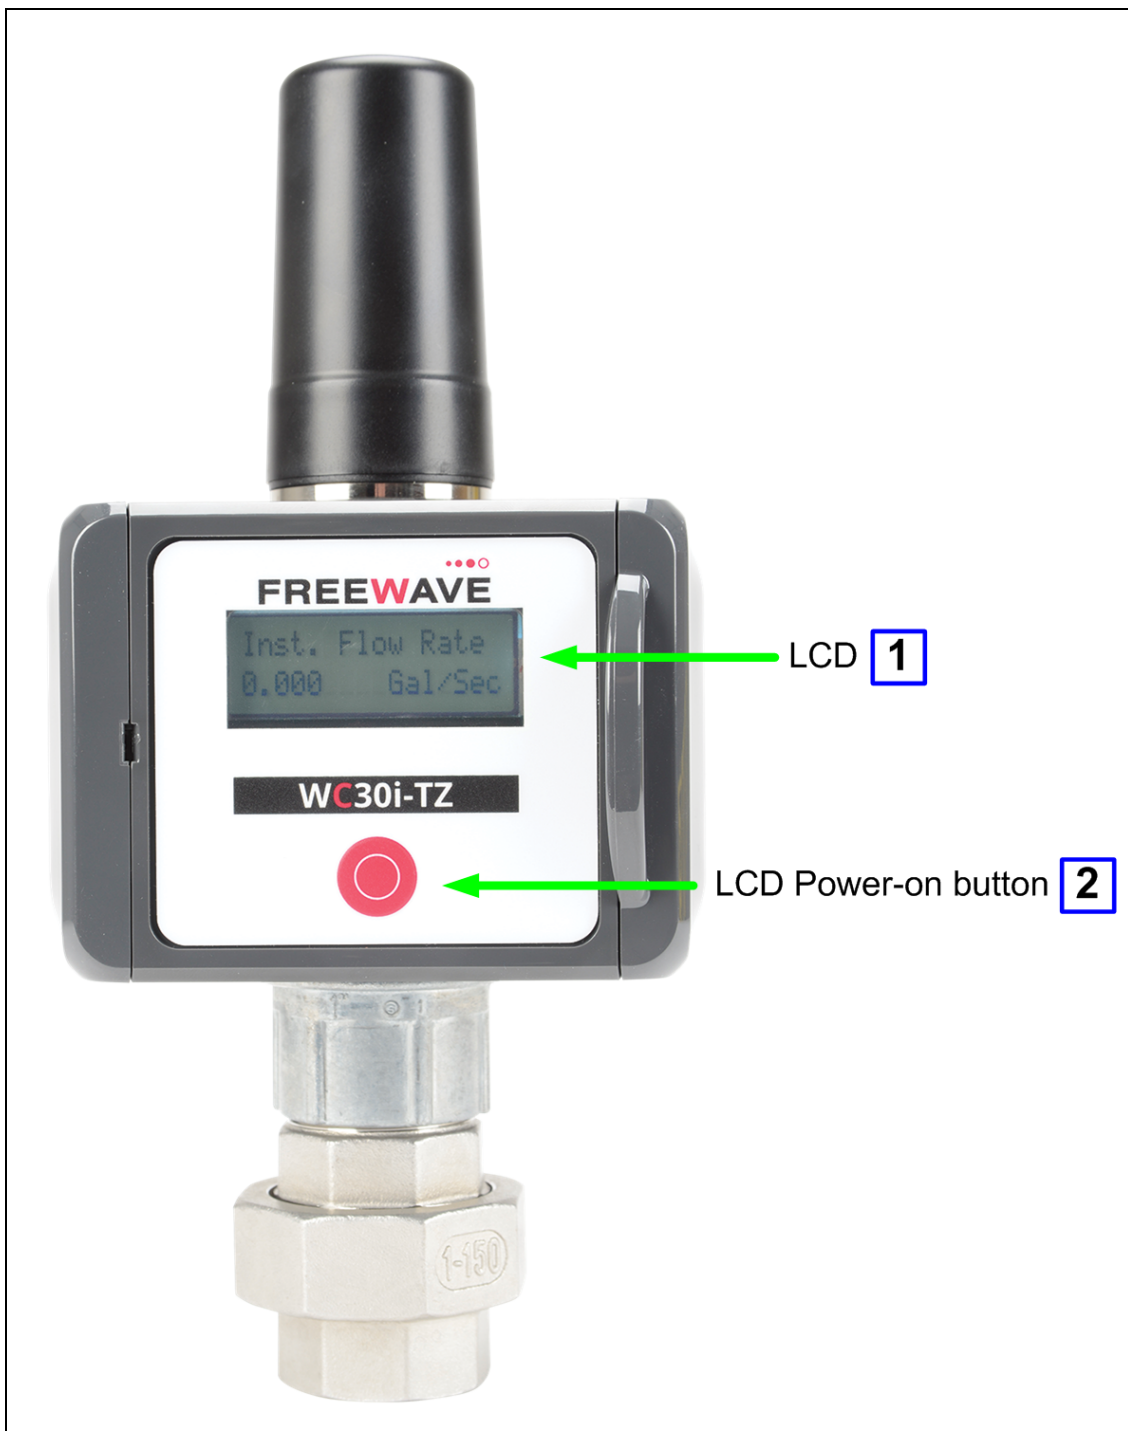

Figure 1: WC30i-TZ LCD and LCD Power-on button
- The LCD (#1 in Figure 1) is powered on only when the **LCD Power-on** button under the LCD is pressed.
- Press the **LCD Power-on** button (#2 in Figure 1) to cycle through these information screens: